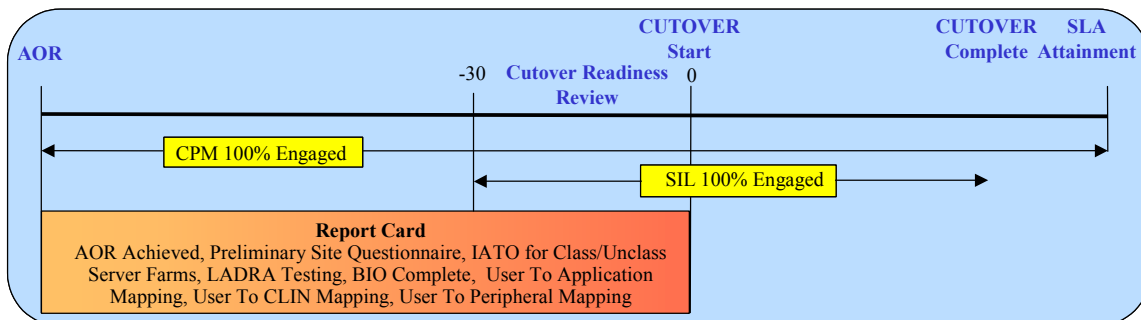

Figure 2 – Report Card Timeline
- 1.3 The NMCI Navy PMO (Program Management Office) is committed to providing the customer with the required information, and the necessary support staff consistent with priorities, schedules and resources, to bring about an effective transition for each site in each Claimancy. The goal of this document is to provide critical guidance to the prospective Site Integration Lead (SIL) to ensure that the program objectives for NMCI are implemented in an effective and timely manner. Figure 2 illustrates the timeline for these actions.